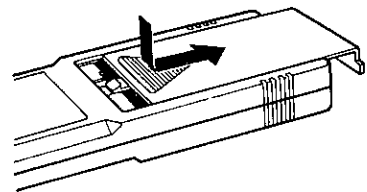

Fig. 6a
1. Open the battery compartment lid by pushing the tab as shown in Fig.6a.